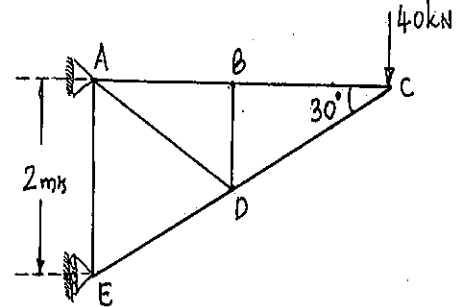

Fig.Q4
- 4 Find the vertical and horizontal deflections at joint 'C' for the pin-jointed truss shown in Fig.Q4, by using unit load method. The cross-sectional areas of the members 'CD' and 'DE' are each 2500 mm^2 and those of the other members are each 1250 mm^2 . Take $E = 200 \text{ kN/mm}^2$ (20 Marks)